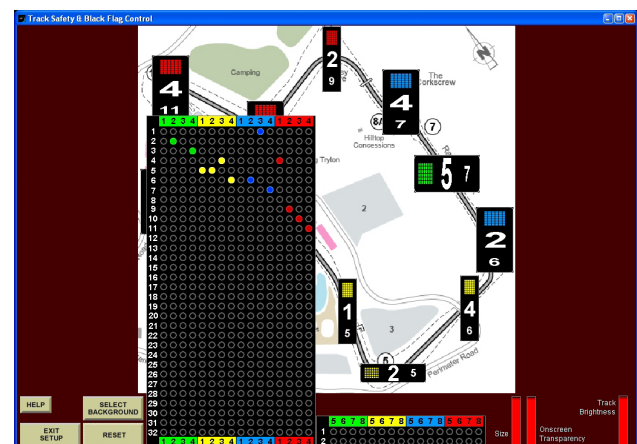
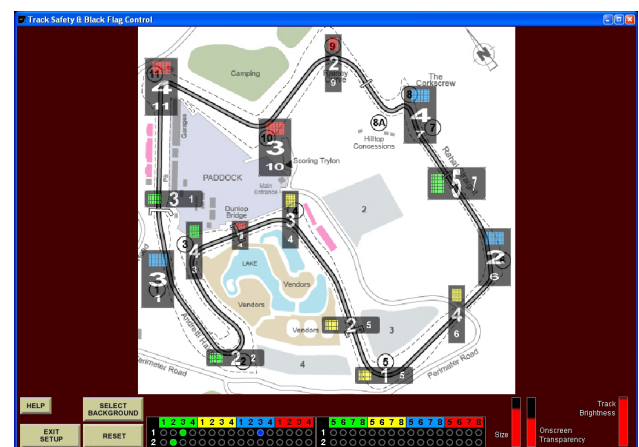

Figure 4 - Track Setup Screen
Figure 6 - Size and Transparency example (compare to Figure 4)
This screen, displayed in Figure 4, is used to configure the onscreen overhead view of the track and position of each TSL.
**TRANSPARENCY** - To change the displayed transparency level of the TSLs onscreen, click and hold down while dragging the red bar up or down within the Transparency bar. Note the onscreen TSL will become more transparent as the red bar shrinks in size. Compare size and transparency settings and TSLs in Figure 4 and Figure 6.